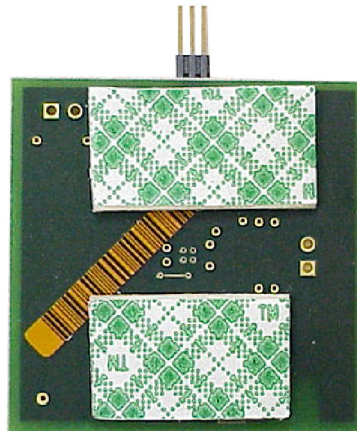

Figure 4: Tape attached to Interposer Fix board
1. Place the Interposer Fix board as shown in Figure 4.
2. Attach double-sided adhesive vinyl-foam tape to the Interposer Fix board. See Figure 4.